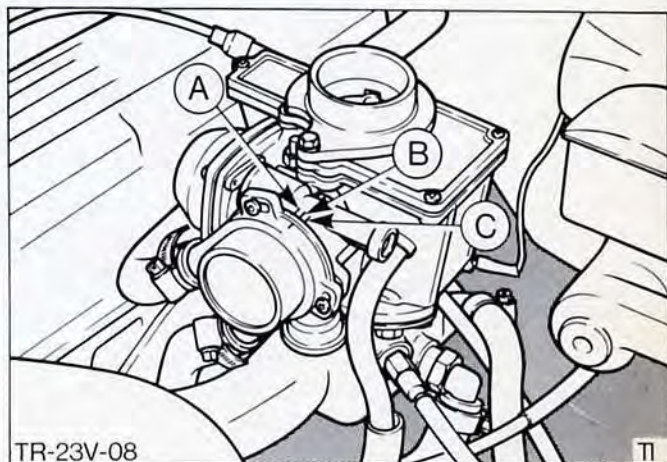

Fig.77. Choke housing alignment.
10. Turn choke housing to line up with specified choke alignment mark and secure three screws. Fig.77, shows housing set up on index.